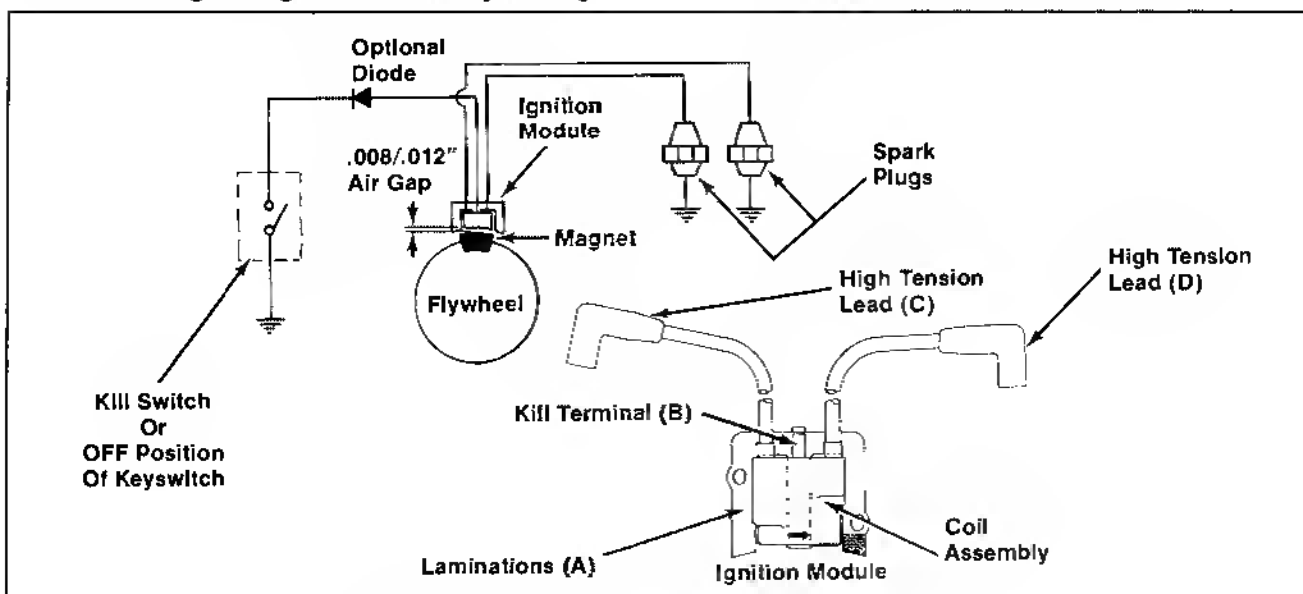

Figure 8-1. Magnum Electronic Magneto Ignition System.
This engine is equipped with a state-of-the-art electronic magneto ignition system. The system consists of the following components (refer to Figure 8-1):
4. Measure the secondary resistance of module using an ohmmeter. Refer to Figures 8-1 and 8-4. NOTE: Module must have been "fixed" to perform Test 4. <div style="display: flex; justify-content: space-around;"><div>Secondary Leads/Terminals C - D</div><div>Secondary Resistance 22,000/42,000 ohms</div></div>	If resistance is within range, module secondary is OK. If resistance is low or 0 ohms, module secondary is shorted. Replace module. If resistance is high or infinity ohms, module secondary is open. Replace module.